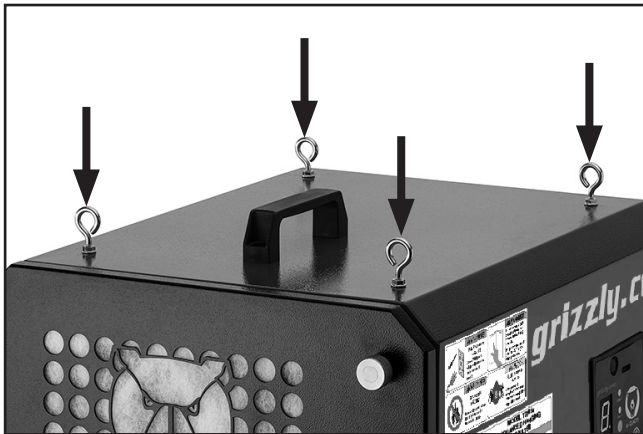

Figure 15. Eye bolts installed.
5. Repeat **Steps 3–4** for remaining (3) eye bolts (see **Figure 15**).